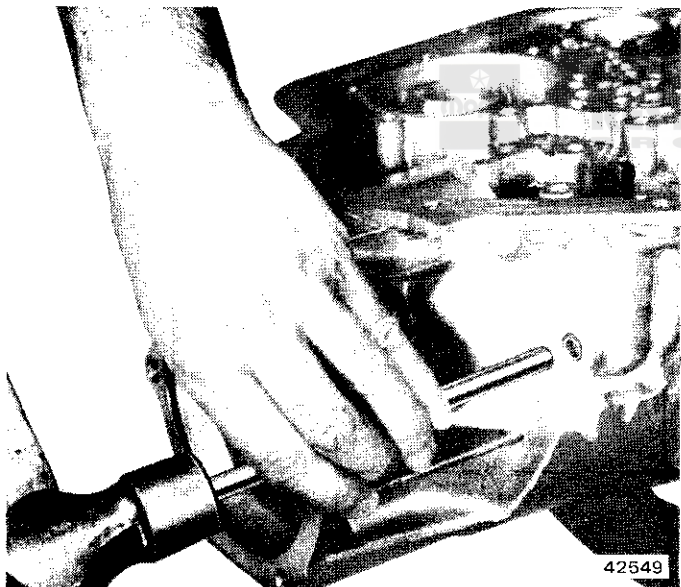

Fig. 2C-148 Cup Plug Installation
- (8) Install support-to-case spacer against shoulder at bottom of case splines so that end gap of snap ring is adjacent to band anchor pin (fig. 2C-150).
- (9) Install required thickness rear unit selective washer (washer thickness determined by end play check made during disassembly) into corresponding slots in rear of transmission case.
- (10) Install center support and gear unit in case. Be sure center support bolt hole is properly aligned with hole in case. Use Tool Kit J-21795 to install assembly.